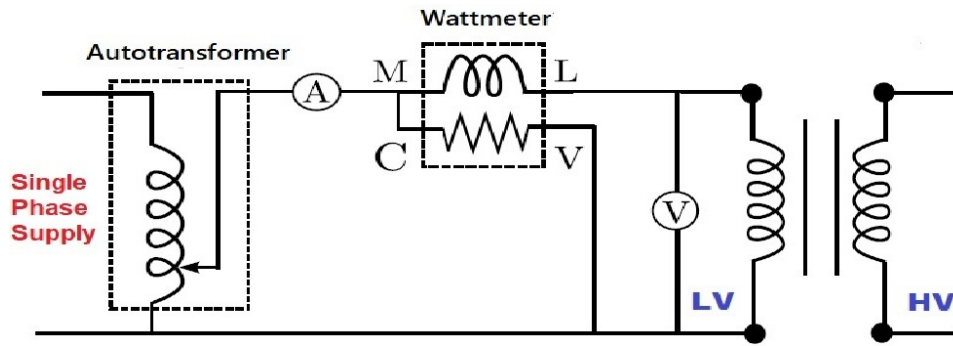

Figure 1: Open Circuit Test on Transformer
This test is performed to measure the no load current and the iron losses of the transformer. Generally, HT side is kept open-circuited and the rated voltage at rated frequency is applied to LT winding. The wattmeter, ammeter and the voltmeter are connected to their primary winding. The connections are made as shown in Figure 1. Rated voltage is supplied through an auto-transformer. The readings of wattmeter, voltmeter and ammeter are noted.
- 1) Connect the circuit as shown in Fig. 1.